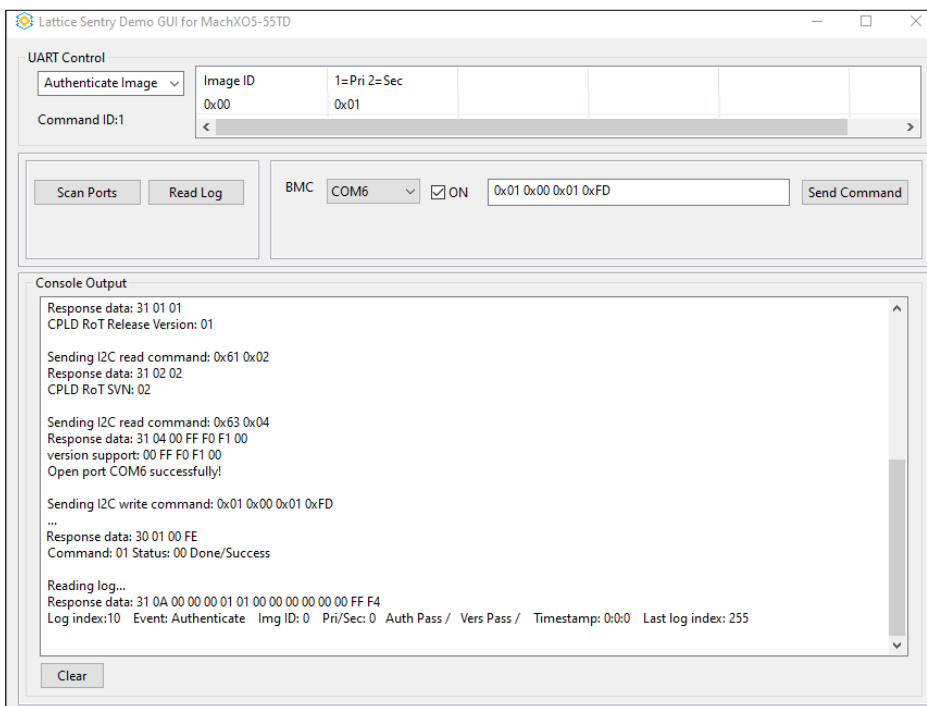

Figure 9.9. Lattice Sentry Demo GUI Read Log
12. Click **Read Log** to view the most recent log entry. Continue clicking **Read Log** to view earlier log entries (Figure 9.9).